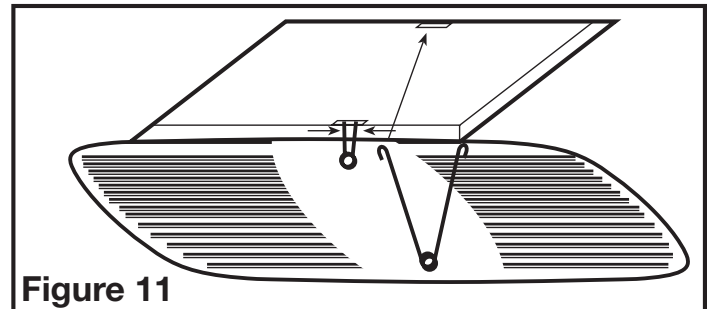

Figure 11
4. Install the grill by squeezing the two ends of the springs together and installing them up into the slots on the fan's housing. Push the grill up into position (Figure 11).